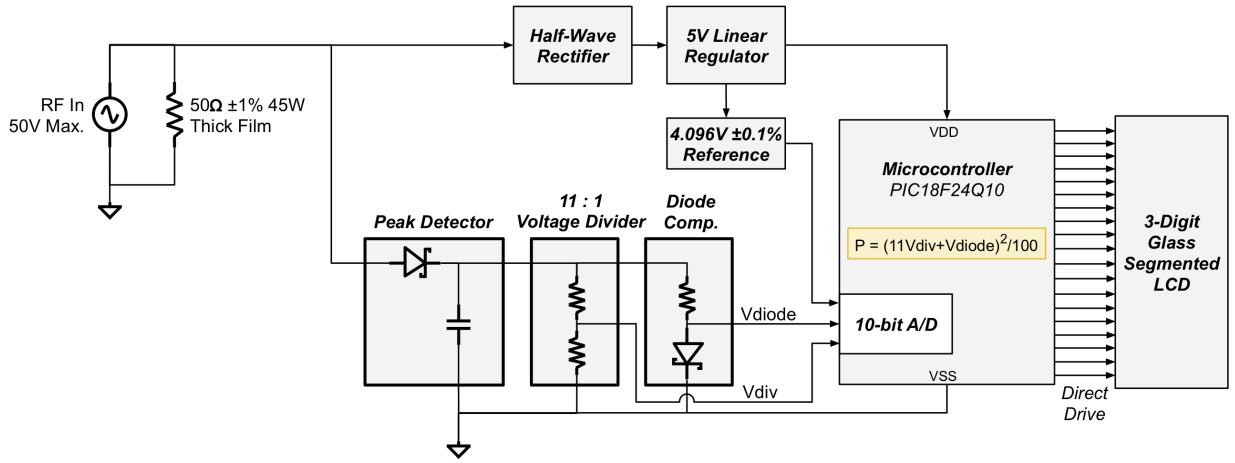

Figure 4: Block Diagram
The block diagram of Figure 4 shows the functional units of the dummy-load module—primarily, a 50Ω load resistor, a PIC18 microcontroller, and a three-digit liquid crystal display (LCD). The radio-frequency (RF) input powers the PIC18 and LCD via a rectifier followed by linear regulator. The complete electrical schematic appears in Figure 5.